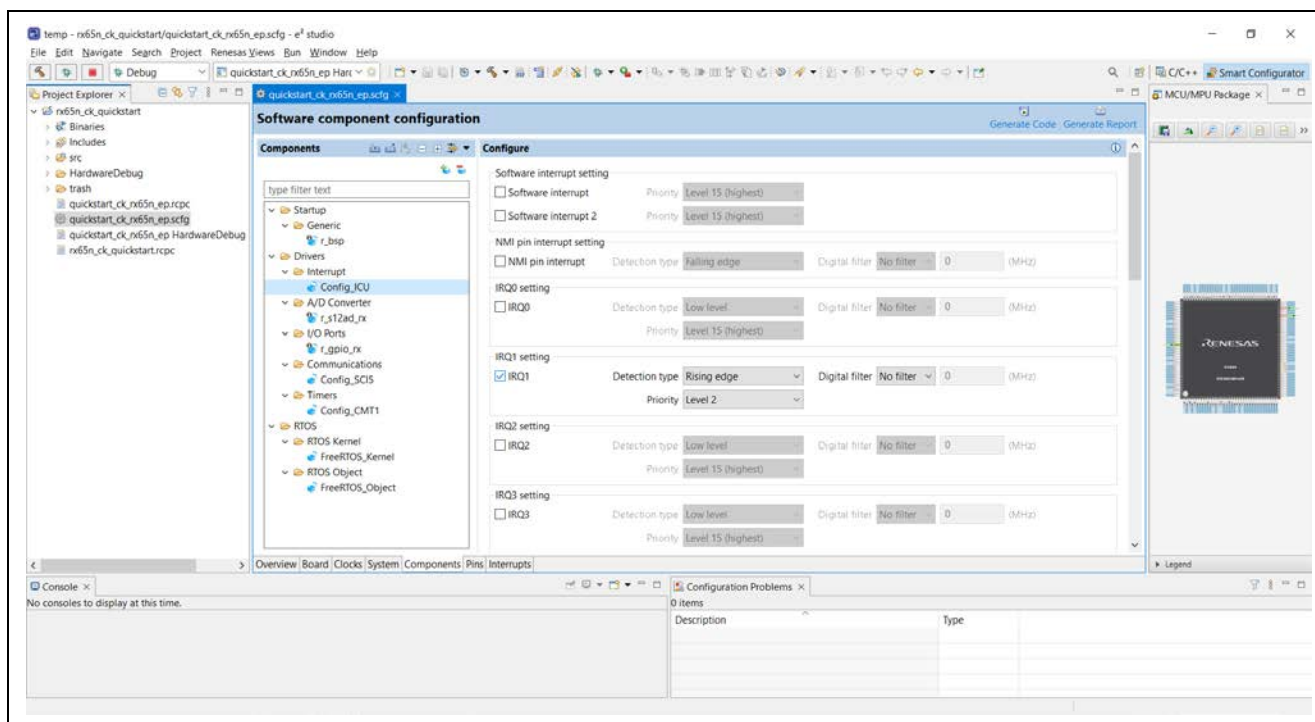

Figure 25. Modifying the Configuration Settings
2. For example, in the **Components** tab of the configurator, the user can click to select a module to modify its configuration settings, as required. Figure 25 illustrates modifying the **IRQ** configuration.